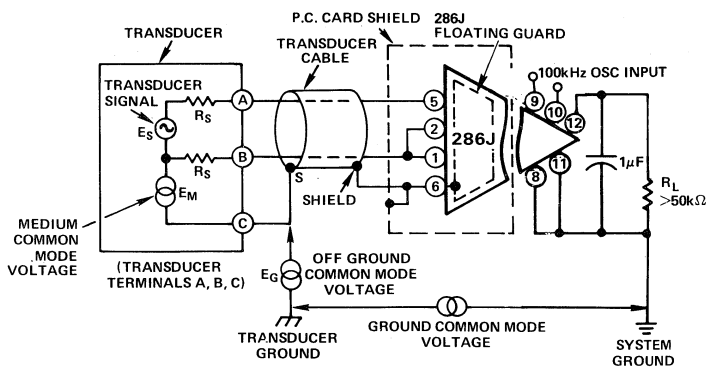

Figure 16. Transducer - Amplifier Interface
- Drive the transducer cable shield, S, with the common mode signal source, E_G , to reduce the effective cable capacitance as shown in Figure 16 below. This is accomplished by connecting the shield point S, as close as possible to the transducer signal low point B. This may not always be possible. In some cases the shield may be separated from signal low by a portion of the medium being measured (e.g. pressure transducer). This will cause a common mode signal, E_M , to be generated by the medium between the shield and the signal low. The 78dB CMR capability of model 286J between the input terminals (HI IN and LO IN) and GUARD, will work to suppress the common mode signal, E_M .